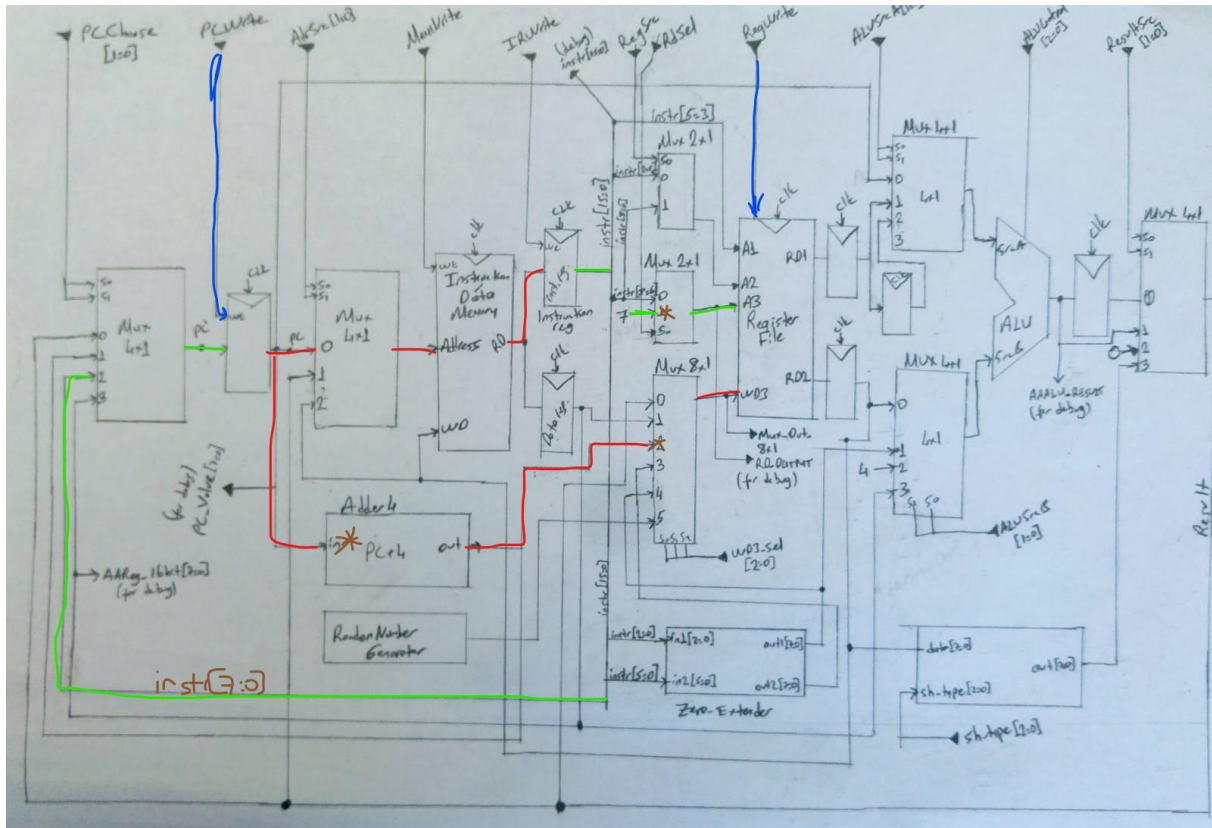

Figure 8: The datapath for Branch operation(BUN,BL) for multi-cycle CPU
For BL(branch with link) operations, we need to save the PC+4 which shows the next instruction address fetched. For this purpose a link register(LR) is added in the register file to keep the address. I save the LR in the register 8. Indeed, I don't keep the address of the PC since I don't need in this design. To save the next instruction address(PC+4), I added an adder that adds 4 to the PC and gives the result to the 8x1 Mux in front of the Register File. Since I want to use all 8 bits in the ISA, I didn't add a destination register to the ISA, but an option that makes the datapath giving 7 to the Register file A3 in for the destination address(7) for LR. That gives the data path the ability of writing instructions as BL #19. The necessary changes are shown in the figure 8.